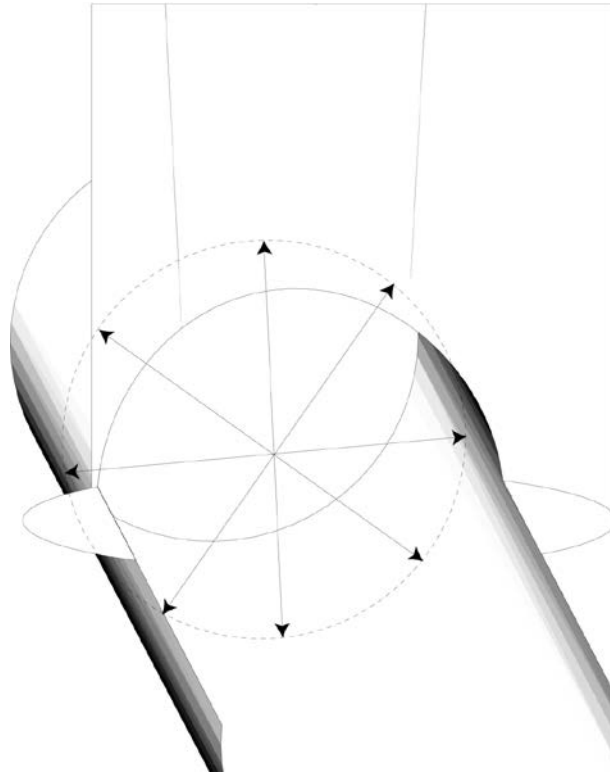

Figure 15: Pipe diameter measurement
1. Measure the inside pipe diameter (I.D.) at three locations (Figure 15). Be sure that the measurements are accurate.